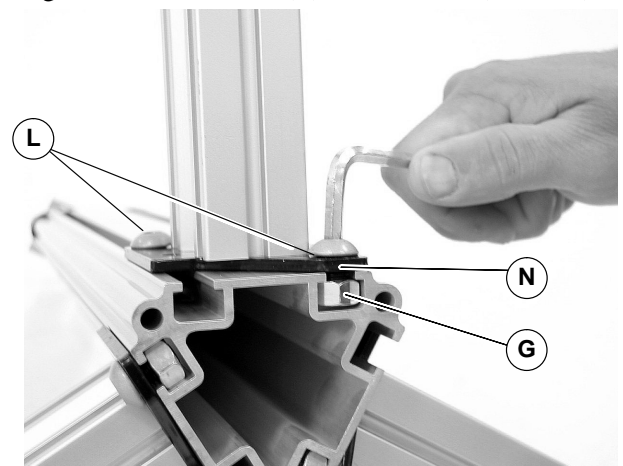

Figure 6
- Align bottom edge of the end plate (N of Figure 6) with bottom edge of the trileg post (G).
Failure to secure screws (L) of Figure 6) may cause conveyor sections to drop down, causing severe injury.
**TIGHTEN ALL SCREWS (L) AFTER ADJUSTMENT.**
- Tighten button screws (L) to 100 in-lb (11 N-m).